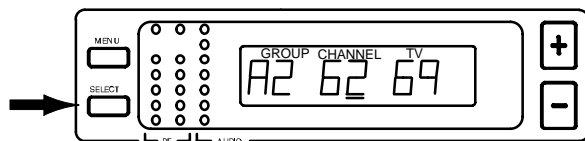

FIGURE 14
5. Press the SELECT button until a line is below the character you want to change, as shown in Figure 14.